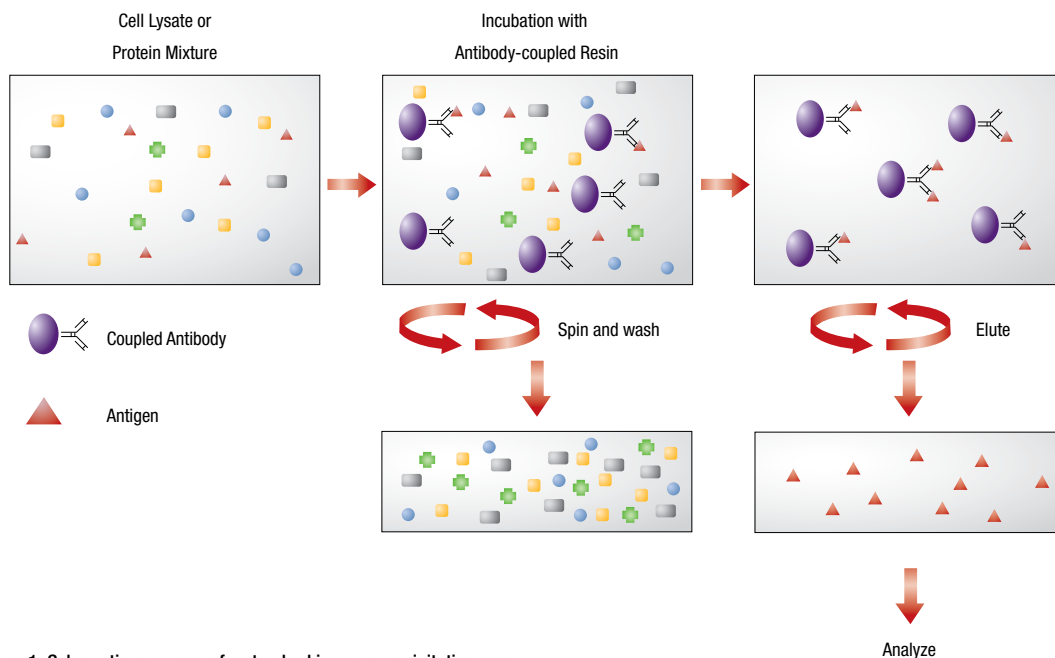

Figure 1. Schematic summary of a standard immunoprecipitation assay.
Figure 1. Ratio of protein abundance. Human Serum Albumin and IgG comprise almost 75% of all serum proteins. Other proteins with less (but still significant) abundance include alpha-1-Acid Glycoprotein, alpha-1-Antitrypsin, alpha-2-Macroglobulin, Apolipoprotein A-I, Apolipoprotein A-II, Fibrinogen, Haptoglobin, IgA, IgM and Transferrin, which altogether comprise up to 95% of serum proteins.
Figure 1. Effective albumin removal improves 2D gel analysis of serum. **Panel A.** Human serum was diluted five-fold in TBS (i.e., 10 μ L of serum added to 40 μ L of TBS), and 5 μ L of the diluted serum was separated by 2D-SDS PAGE. **Panel B.** Human serum was diluted two-fold in Binding/Wash Buffer (i.e., 50 μ L of serum added to 50 μ L of buffer) and processed using the Pierce Albumin Depletion Kit according to the instructions. Albumin-depleted samples and washes were combined (i.e., 100 μ L sample with 150 μ L wash buffer) and 5 μ L was separated by 2D SDS-PAGE. For 2D SDS-PAGE analysis, samples were diluted with 2D SDS-PAGE loading buffer, focused using pH 4-7 isoelectric focusing (IEF) strips and separated using 8-16% Tris-glycine gels. Gels were stained using Thermo Scientific™ GelCode™ Blue Stain (Product # 24590). The black arrow points to the gel region where albumin is located on the duplicate gels before (A) and after (B) processing.
Figure 1. Performance of Thermo Scientific Pierce Top 12 Abundant Protein Depletion Spin Columns compared to equivalent products from other suppliers. Human serum (10-20 μ L, Product # 31876) was loaded onto each resin and processed according to the manufacturer's protocol (Agilent: Human 14 Multiple Affinity Removal Spin Cartridge, Product # 5188-6560; Sigma: SEPPRO™ IgY14 Spin Column, Product # SEP010; BAC: CaptureSelect™ HumanPlasma 14 Depletion Resin, Product # 291.9914) protocol. Total protein in the depleted fractions was estimated using Thermo Scientific™ Pierce™ BCA Protein Assay Kit (Thermo Scientific, Product # 23225). Total amount of albumin in the depleted fractions was determined using AssayMax™ Human Albumin ELISA Kit (Assaypro, Product # EA2201-1). FT = flow-through (i.e., depleted sample); E = eluate (i.e., proteins that were bound by the resin, plus stripped affinity antibodies of the column). Performance of all four products is comparable in this analysis. With the Top 12 proteins removed, low-abundance proteins are now visible in each depleted sample lane (FT).
Phospho-specific antibodies recognizing key regulatory proteins involved in growth factor signaling were used to monitor binding specificity of the Pierce Phosphoprotein Enrichment Kit (Figure 1). Specificity of the kit is further demonstrated by the absence of Cytochrome C (pI 9.6) and p15Ink4b (pI 5.5), two proteins not predicted to be phosphorylated, in the elution fraction and their emergence in the flow-through and wash fractions (Figure 1). Furthermore, dephosphorylation of HeLa cell extract *in vitro* resulted in diminished binding of PTEN, MAPK and GSK3 β to the Thermo Scientific™ Pierce™ Phosphoprotein Enrichment Column as evidenced by their absence in the elution fraction. In contrast, all three proteins were present in the elution fraction from non-treated HeLa extract (Figure 2). The Pierce Phosphoprotein Enrichment Kit provided superior and efficient phosphoprotein enrichment yields when compared to other suppliers' products (Table 1). It also effectively enriched phosphoproteins from homogenized mouse liver tissue (Figure 3).
Figure 1. Highly pure phosphoprotein enrichment from complex biological samples. Serum-starved HeLa and NIH 3T3 cells were stimulated with EGF and PDGF, respectively. Cell lysate (2mg) was used for enrichment. Concentrated flow-through, wash and elution fractions were resolved by SDS-PAGE. Gel lanes were normalized by protein concentration (10 μ g/lane). Western blot analysis was performed using antibodies that detect site-specific phosphorylation events. Cytochrome C (pI 9.6) and p15Ink4b (pI 5.5) served as negative controls for nonspecific binding of non-phosphorylated proteins. FT = flow-through fraction, W = pooled wash fractions, E = pooled elution fractions and L = non-enriched total cell lysate.
Figure 1. Diagram of Thermo Scientific Pierce Protein A/G Magnetic Beads. The magnetic particles are 1µm in diameter and are specially manufactured with two layers of magnetite and encapsulation. Recombinant Protein A/G is coupled to the bead surface.